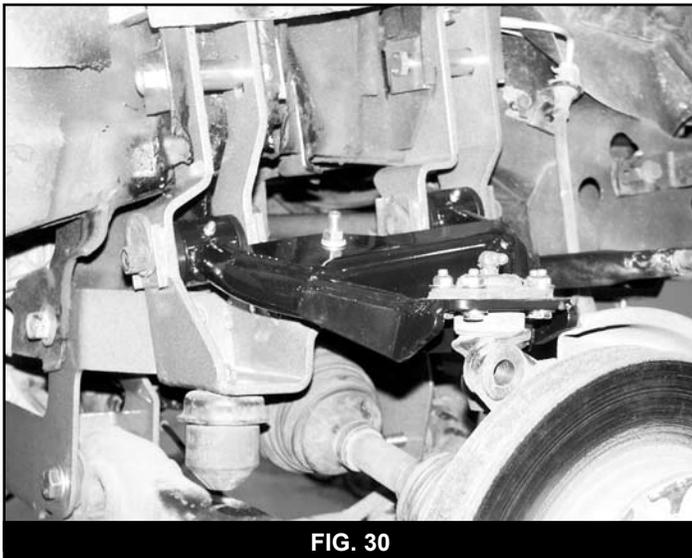

FIG. 30
61. Install the knuckle/a-arm assembly in the new brackets with 14mm x 100mm bolts, nuts and 9/16" SAE washer (bolt pack #510) while aligning the CV shaft to the differential. Attach the upper control arm ball joint to the knuckle and torque the nut to 61 ft.lbs. Leave a-arm pivot bolts loose. (Fig 30)